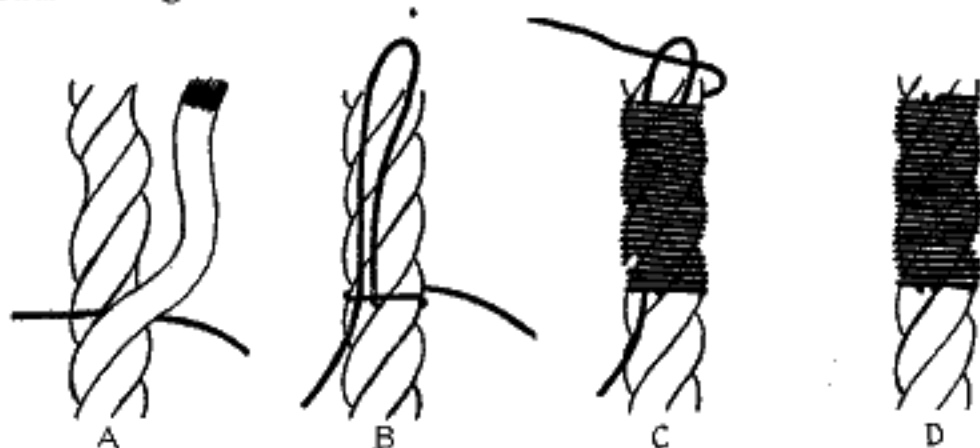

FIG. 318.—Whipping an end of a rope is an effective way to prevent fraying.
1. Unlay one strand of the rope back an inch or two from the end (see Fig. 318).